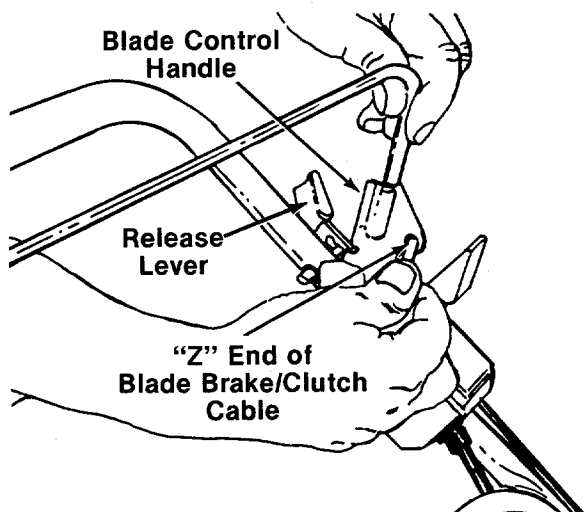

FIGURE 5.
- Hook the "Z" end of the blade brake/clutch cable into the hole in the blade brake/clutch control handle. See figure 5. If additional slack is needed in order to hook the cable into the handle, proceed as follows.
- b. Push release lever (see figure 5), then squeeze blade control handle against upper handle.